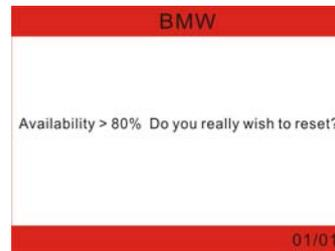

Figure 4-6
5. Press [], a screen similar to Figure 4-6 will appear.